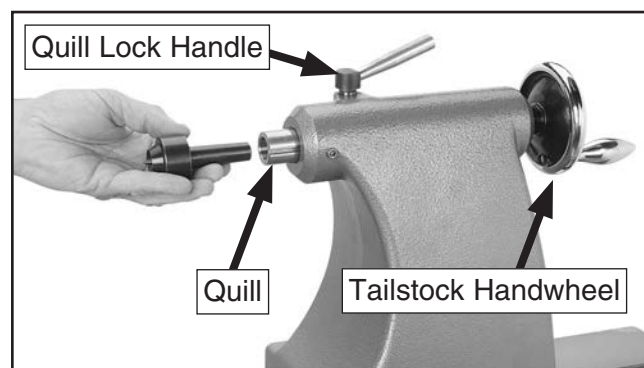

Figure 19. Installing center into tailstock quill.
1. Loosen the quill lock handle and rotate the tailstock handwheel until the quill extends about 1" (see **Figure 19**).
3. Insert the tapered end of the center into the tailstock quill, as shown in **Figure 19**.